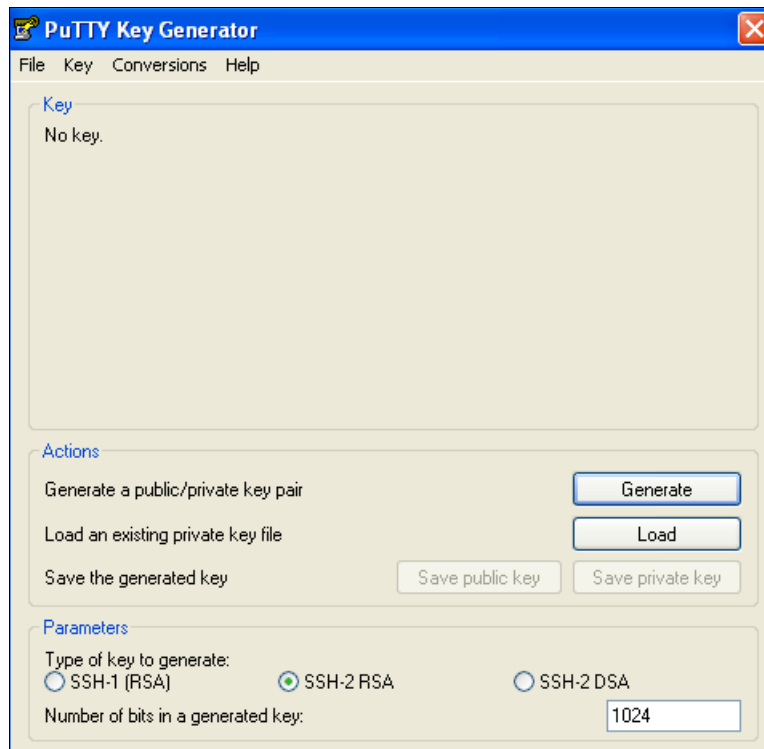

Figure A-1 PuTTY key generator
1. Start the PuTTY key generator to generate the public and private key pair, as shown in Figure A-1.